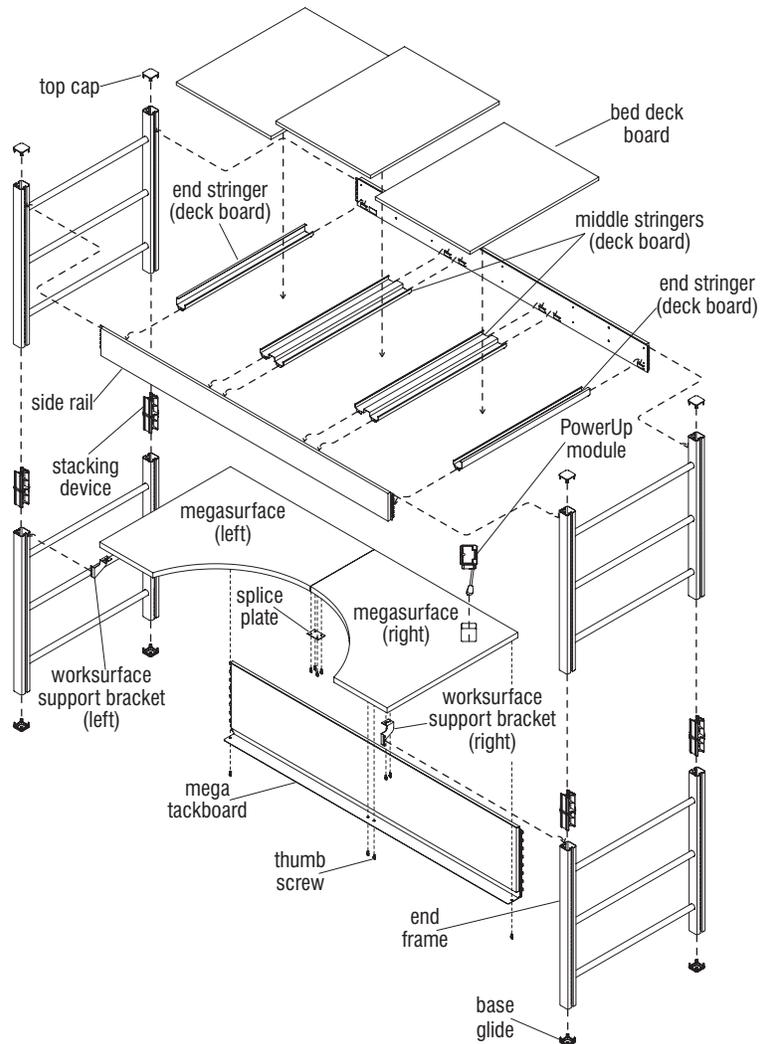

Figure 5 - Board Deck Megasurface Loft Bed
2. Stand up both end frame sets and hang the mega tackboard between them at an appropriate height location (Figure 5).
3. Hang one end of a mega tackboard into one of the end frame pairs at the desired height. Apply outward pressure to the end frame pair at the other side, then engage the mega tackboard into that opposite end frame (Figure 5).
4. Hang one right and one left worksurface support bracket on the end frames opposite the mega tackboard. Make sure the top of the brackets are at the same height as the flange of the mega tackboard (Figure 5).
5. Carefully place the megasurface halves on top of the appropriate right and left worksurface support brackets and the bottom flange of the mega tackboard. Fasten the worksurface halves to the support brackets and flange with eight thumb screws from underneath (Figure 5).